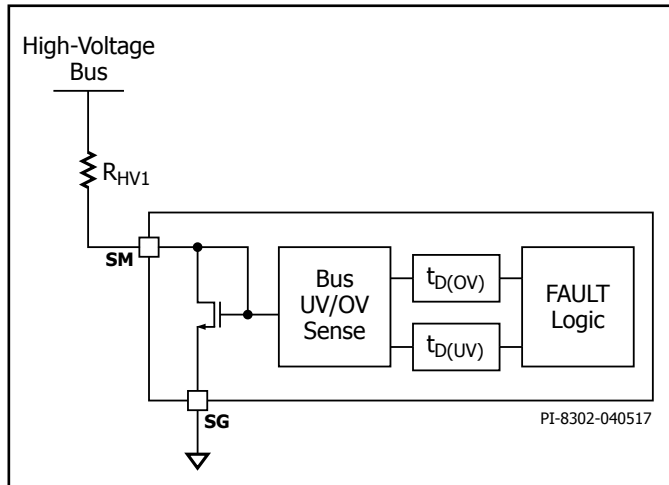
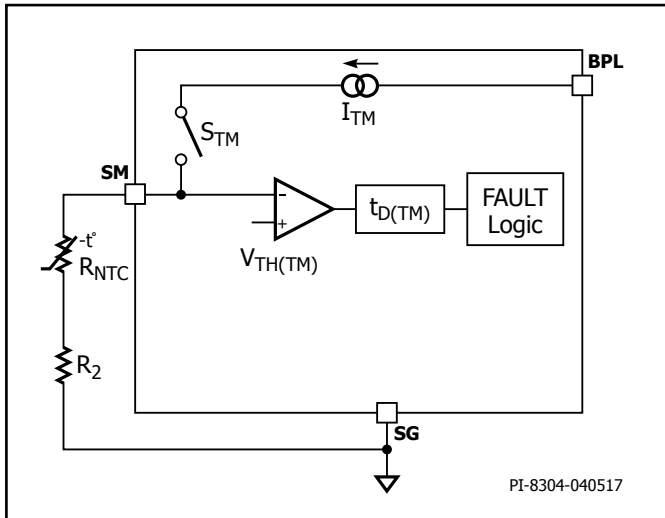

Figure 15. High-Voltage Bus Monitoring with SYSTEM MONITOR Pin.
Figure 17. External Component Thermal Monitoring with SYSTEM MONITOR Pin.
BridgeSwitch-2 provides system level status updates through the SYSTEM MONITOR input. The SM pin can be used to track either the high-voltage (HV) DC bus voltage (see Figure 15) or the temperature of an external component through an NTC thermistor (see Figure 17). The SM pin is self-configuring. It automatically detects the type of external connection and adopts the appropriate circuit configuration at power-up.
The SYSTEM MONITOR pin enables temperature monitoring of an external component through an NTC thermistor as shown in Figure 15. Resistor R_2 allows fine-tuning of the actual over-temperature threshold to achieve desired level with a given NTC resistor.
A resistor connected from the DC bus to the SM pin will increase overall inverter consumption depending on the value chosen (refer to R_{HV1} in Figure 15). For example, a 7 M Ω sense resistor consumes 16 mW from a 340 VDC bus.